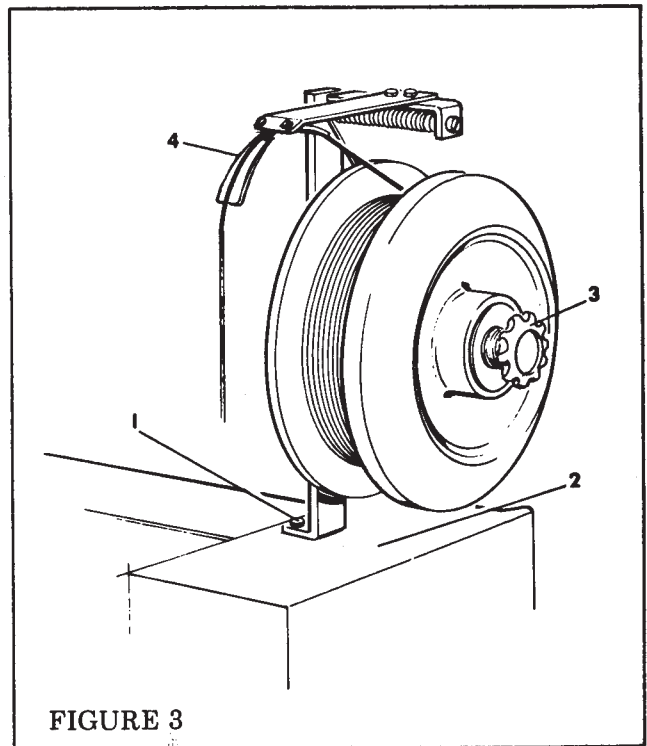

FIGURE 3
2. Remove cover of 25 pound coil holder by pressing inward on the knob (Index 3, Figure 3) while turning knob to release the cover shaft from the main hub and reel assembly.
wire feeds toward the wire guide (Index 4, Figure 3). Hold the wire end in one hand and cut tape ties from coil of stitching wire. Replace cover, press knob inward and turn 90 degrees.